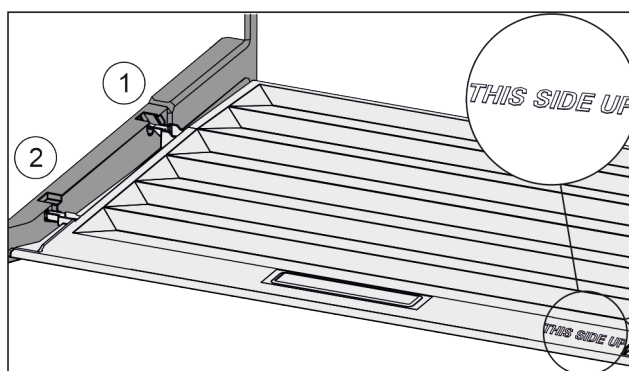

Fig. 108
- Insert the lip of the cover over the opening of the rear bracket Fig. 108 (1) and click into place Fig. 108 (2).